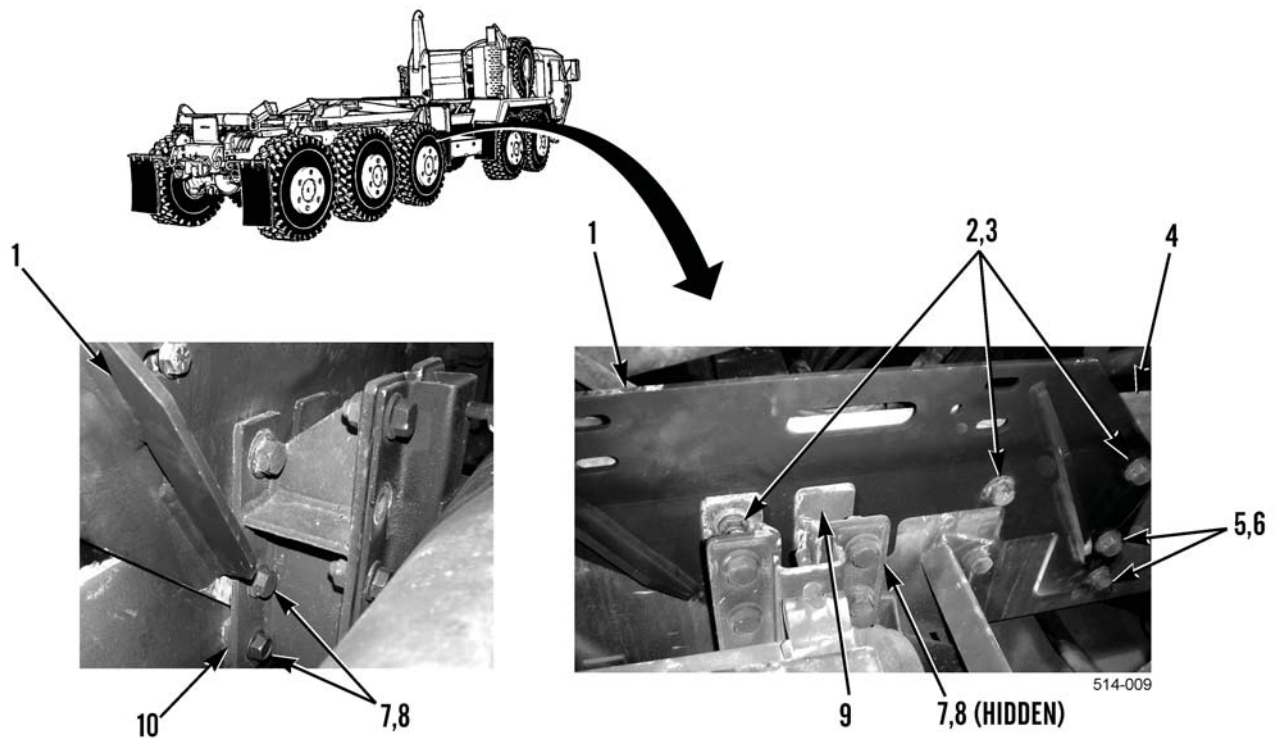

Figure 22. PLS Right-Side Stowage Bracket Information.
4. Install right-side stowage support bracket (Figure 22, Item 1), three bolts (Figure 22, Item 2), and nuts (Figure 22, Item 3) on frame (Figure 22, Item 4).
5. Install two bolts (Figure 22, Item 5) and nuts (Figure 22, Item 6) on frame (Figure 22, Item 4).
6. Install shims as necessary (Figure 22, Item 10), two bolts (Figure 22, Item 7), and nuts (Figure 22, Item 8) on gas tank bracket (Figure 22, Item 9).